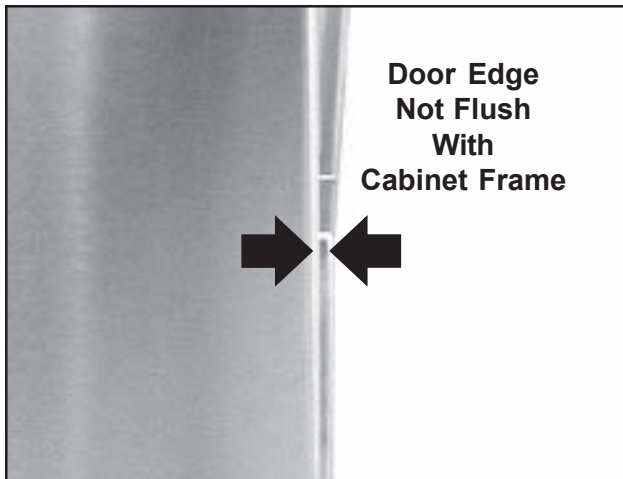

Figure 11. Adjusting the Door In-Out
2. Observe whether or not the hinge side of the door is flush with the cabinet frame (Figure 11)